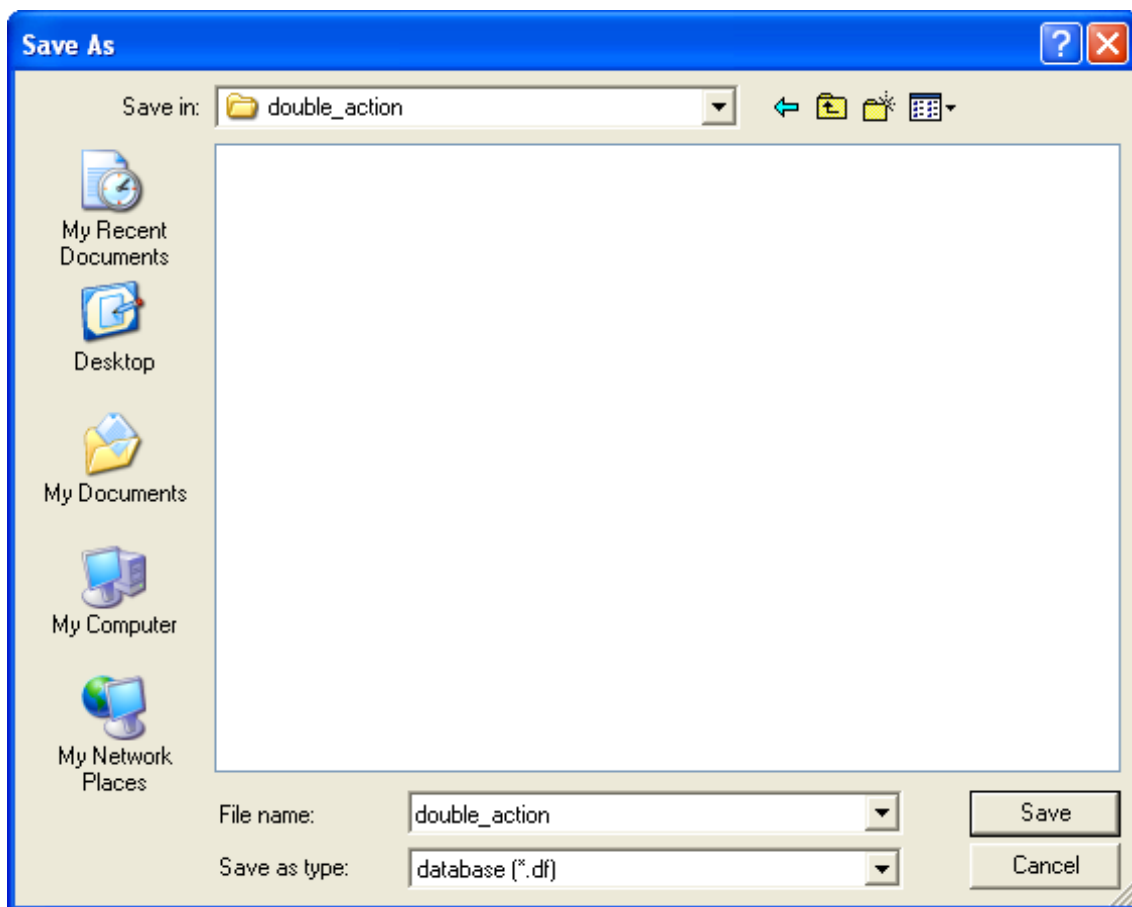

Figure 2.3 Save as file
3. Save the database to the designated working directory. Select **File→Save as** from the menu bar. Next, type in “**double_action.df**” at the File Name data input field, as illustrated in Figure 2.3. Then, click **Save** to save the database and dismiss the dialog window.